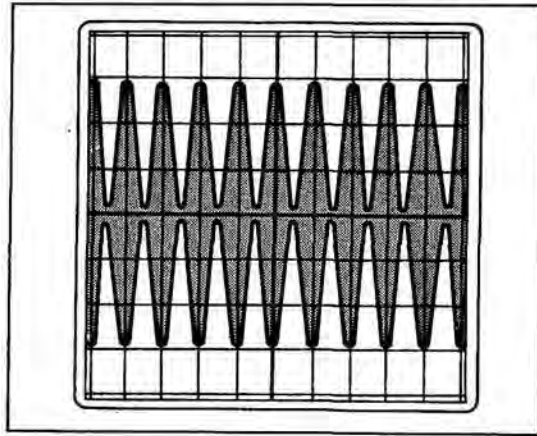

Figure 4-6 100% Modulation Display
9. Set GEN/RCVR Switch (13) to "RCVR".
10. Set BFO/OFF Switch (20) to "BFO".
12. Connect output of Signal Generator to FM/AM-1100S/A front panel ANTENNA Connector (46).
13. Adjust INTENSITY (37) and FOCUS (39) Controls for a sharp visible trace.
14. Adjust VERT (40) and HORIZ (38) Controls so trace display on FM/AM-1100S/A Oscilloscope is centered over major vertical and horizontal axes.
15. Rotate DEV-VERT Control (33) to "15 kHz".
16. Adjust R9646 on 120 MHz Generator Assembly to obtain 100% modulation display on FM/AM-1100S/A Oscilloscope (Figure 4-6).